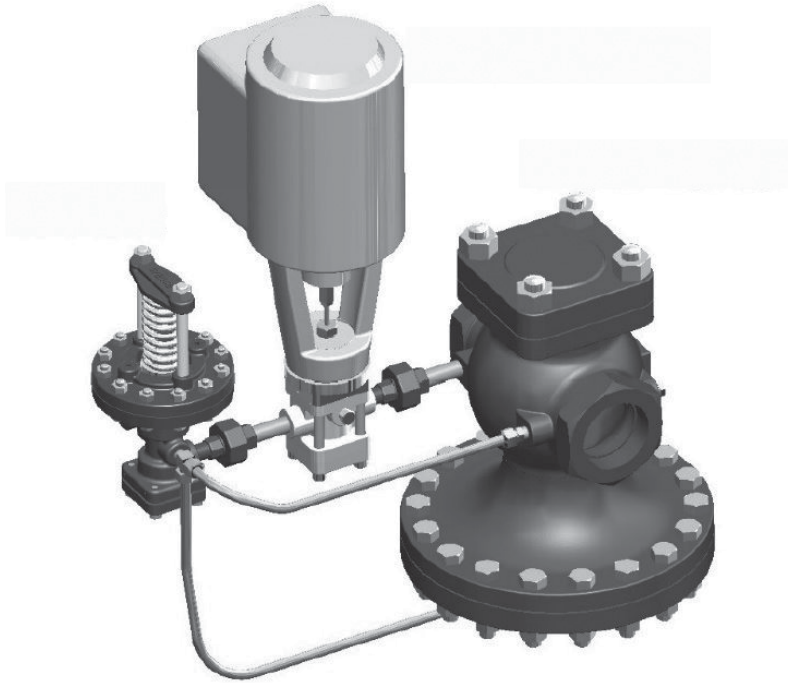

Figure 2. Main Valve, Type D and VH210 Pilots Installation
1. The complete regulator (see Figure 2) consists of an E Series main valve, Types D and Type VH210 pilots and ETC. The Type VH210 pilot is installed between the main valve and Type D pilot. The ETC is connected to the Type VH210 pilot.